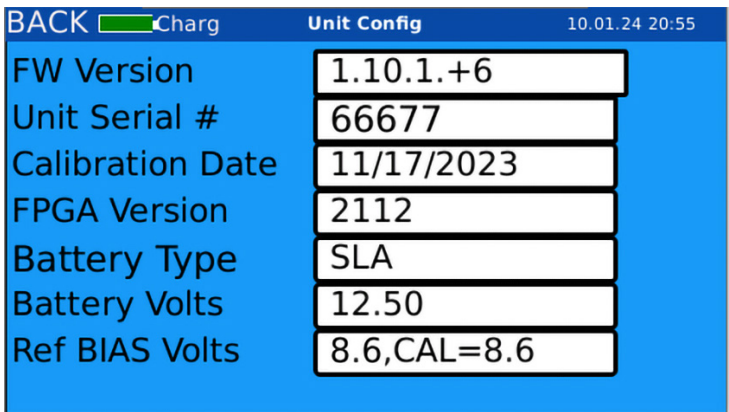

Figure 18. Unit information screen
- 2. The following information is displayed on the Unit Information screen (Figure 18):